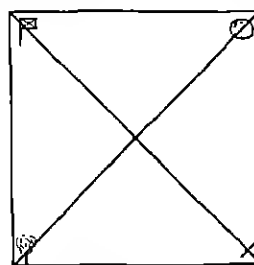

FIG. 5. PLAN OF GARDEN
1. The teacher draws a 2 ft. square on the blackboard and says, "This is the plan of a garden. What can you tell me about it? The scale is, 1 ft. stands for 100 ft.; how big is the garden? In one corner there is a seat; in another, a tree; in another, a flag; in the fourth, a pond." These are entered as they are mentioned and the children draw a copy on their own papers, scale 1 in. = 100 ft., Fig. 5.